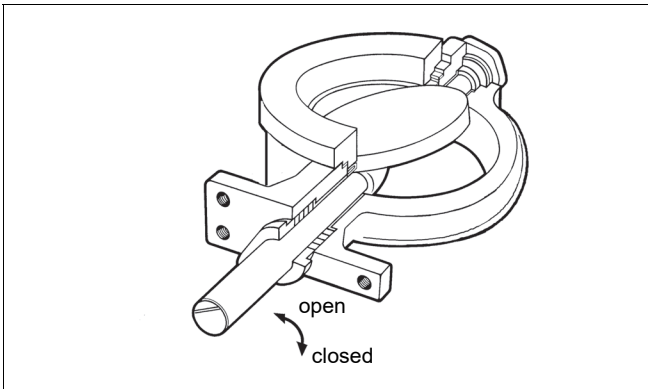

Fig. 12 Open and closed positions of the valve
The marking line parallel to the disc on the valve shaft head shows roughly the closed position of the disc (see Fig. 12)
- Check the position between the seat ring and the disc. The valve closes clockwise (see Fig.12).
- Install the gasket (18) and the blind flange (10). Tighten the screws (26) lightly.
- Then tighten the screws (26) crosswise and evenly. First to 50 % of recommended torque, then to 100 %. Recommended torque values for screws are listed in Table 8.
- Install the body seal (19) and the clamp ring (2). See details in Section 5.5.
- Check the contact line between the seat ring and the disc (see Fig. 12).